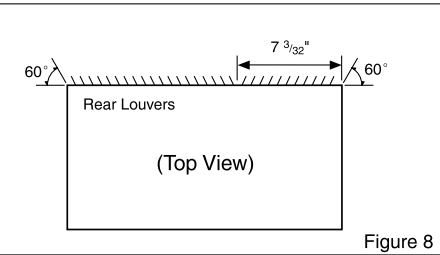

Figure 8
- 1** Redirect the louvers at the back of the wall sleeve to 60° angle as shown in Figure 8. The use of pliers is recommended.